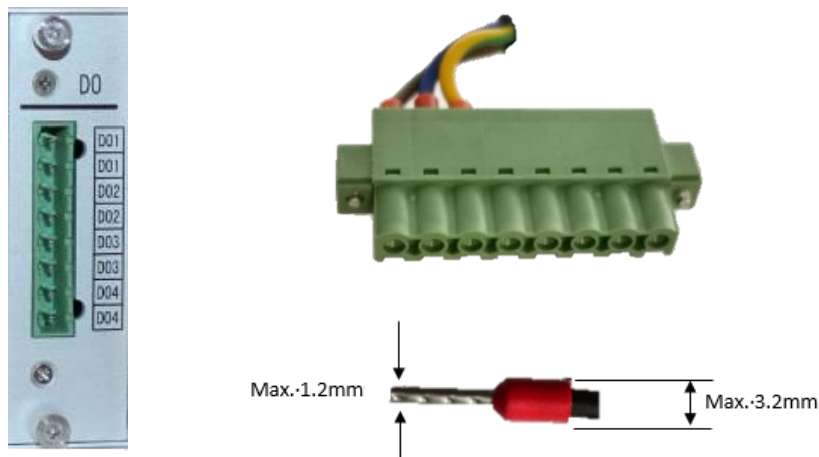

Figure 4.14 DO module connections
In addition to the alarms provided on the power supply module (Section 3.1), the device can be provided with an optional digital-out (DO) module (Section 3.5) which includes four additional relay contacts. The function of these contacts can be set by the XCF-2100E software. Connections are the same as for the power supply module as shown in Figure 4.14.
The connection diagrams are shown in Section 3.4 and the method of connection is as with the DO module (Figure 4.14).